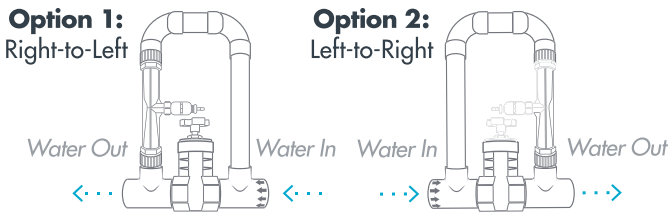

Figure 7: Manifold Orientation
2. Ensure the Manifold is in the proper position before turning on pump. See Figure 7.